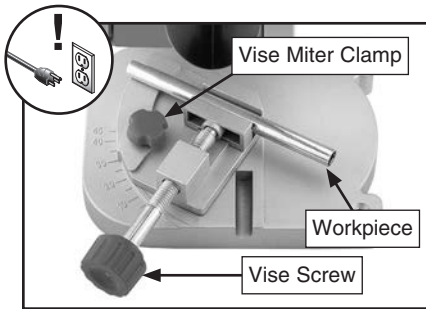

Figure 8. Workpiece vise controls.
2. Loosen vise miter clamp, set miter angle, then tighten vise miter clamp (see **Figure 8**).
3. Loosen vise until workpiece fits between vise jaws, then tighten vise until workpiece is secure (see **Figure 8**).